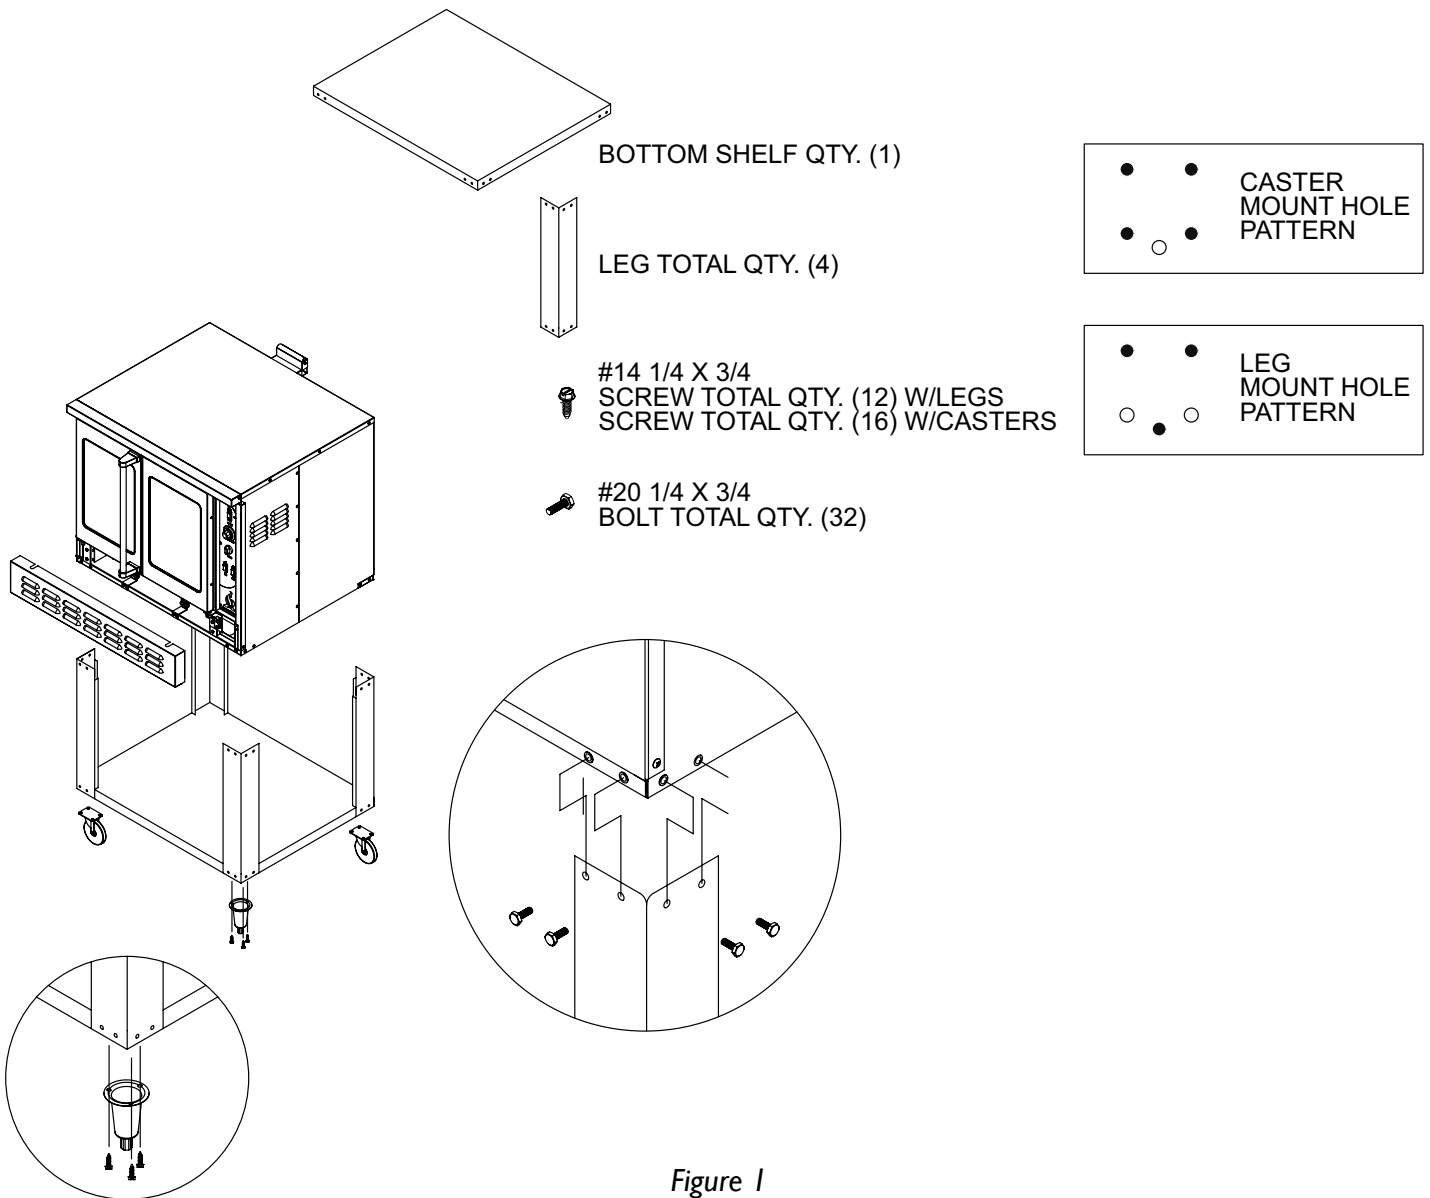

Figure 1
2. Referring to **Figure 1**, secure bottom shelf to the legs, using bolts, and nuts provided. Tighten all bolts securely.